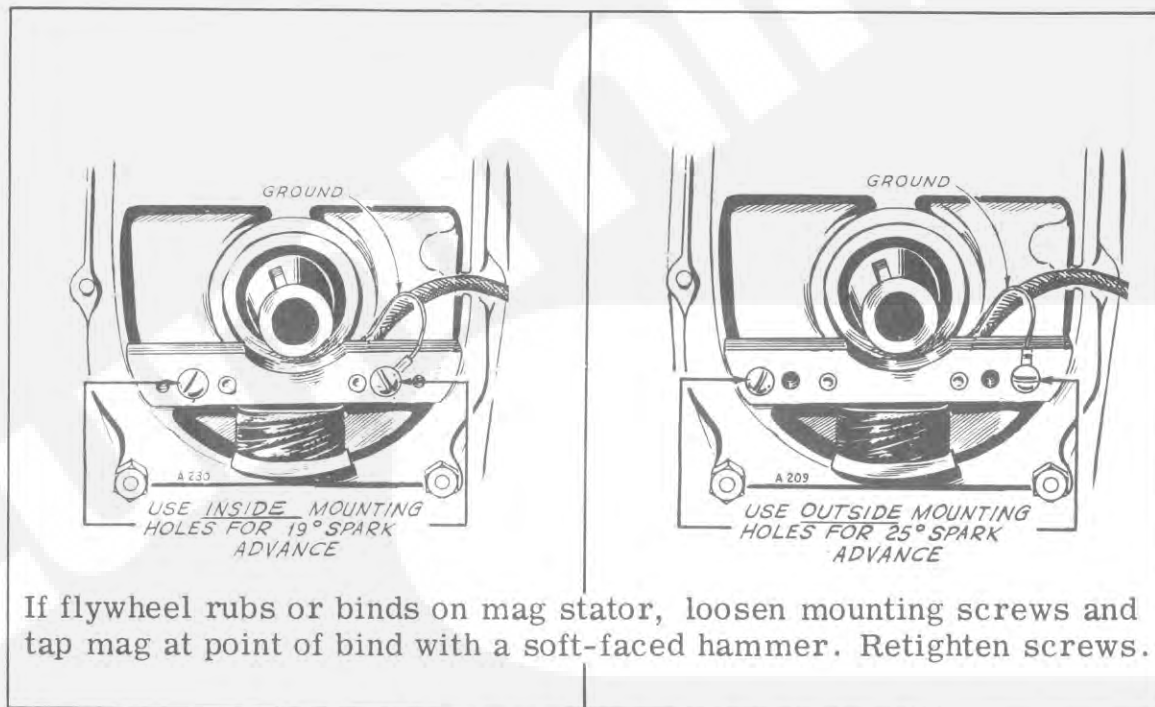

FIG.41- MAGNETO STATOR INSTALLATION
**MAGNETO STATOR INSTALLATION.** - The magneto stator assembly is mounted on the gear cover and the flywheel must be removed to expose it. Fig.41 shows the stator assembly correctly installed on the gear cover. Note that there are inside mounting holes for the stator for a 19° spark advance, the outside holes for a 25° spark advance. Connect the small coil lead to the stator mounting screw. Connect the large lead to the breaker box. Be sure it is held in place by the clip as illustrated.